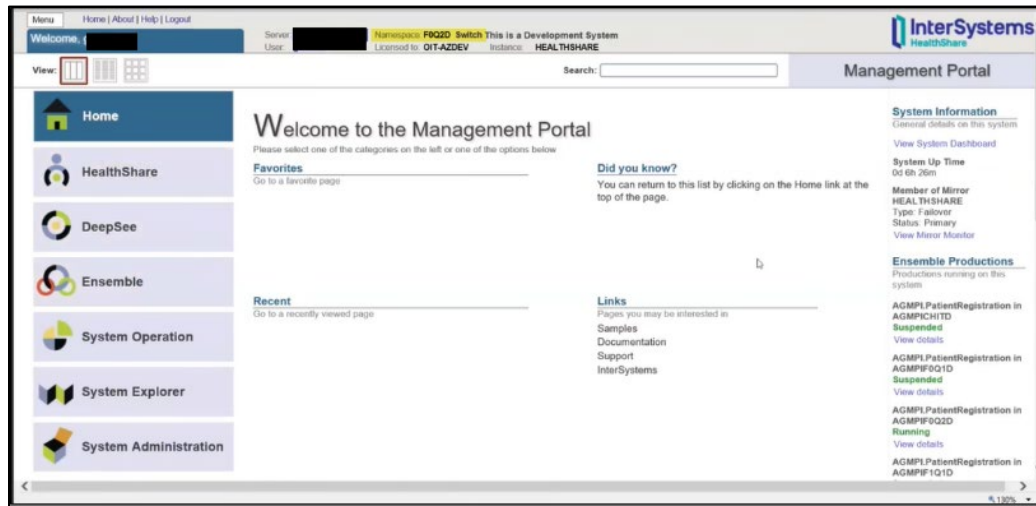
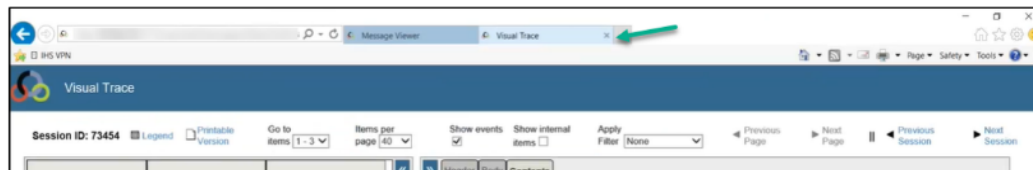
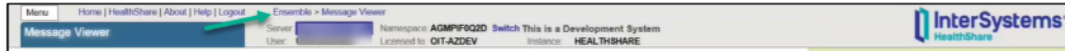

Figure 3-2: Namespace list
Figure 3-5: Close current page
Figure 3-6: Navigation Banner
The Management Portal has a Namespace item at the top of the display area, as shown in Figure 3-2 (yellow highlight). To choose a Namespace, do the following:
1. Click on **Switch** (Figure 3-2, yellow highlight).
To reach another part of Ensemble while you are within Ensemble, return to the **HEALTHSHARE - Home** page (Figure 3-2).
1. At the very top of the page, the current page is highlighted in light blue. If you do not see the **Navigation Banner** (Figure 3-6), close the current page by clicking the **x** next to its name (Figure 3-5, green arrow). If necessary, close all pages until the **Navigation Banner** is visible.
2. Click **Ensemble** from the list at the top of the **Navigation Banner** (Figure 3-6). This will open the **HEALTHSHARE - Home** page (Figure 3-2).